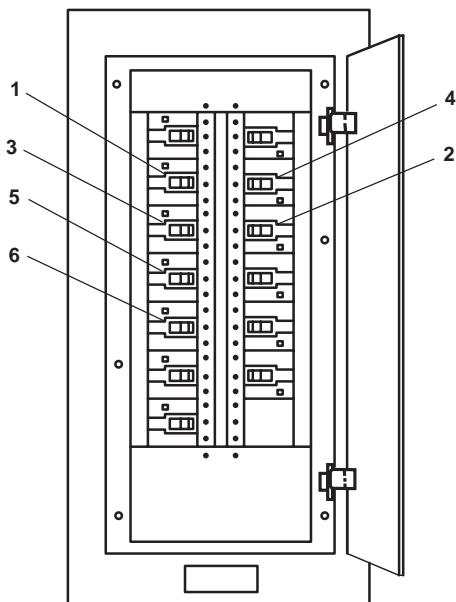

Figure 3. 440V Power Panel No. 1
- a. FRESH WATER PUMP No. 1, (REDUCTION GEAR). (figure 3, item 1)
- b. MAIN ENGINE LUBE OIL PRIMING PUMP No. 1. (figure 3, item 2).
- c. MAIN ENGINE JACKET WATER HEATER No. 1./TURBO OIL PUMP No. 1./WATER LAY OVER PUMP No. 1. (figure 3, item 3).